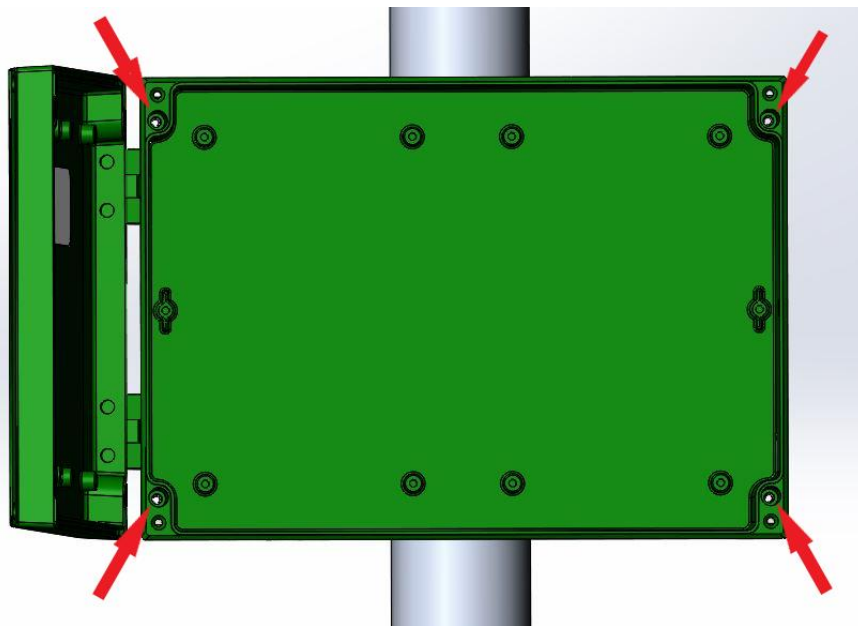

Figure 2-19. Aligning Enclosure with Mounting Bracket
9. With the lid opened, align the four mounting holes on the enclosure shown in Figure 2-19 with the four mounting holes on the mounting bracket.